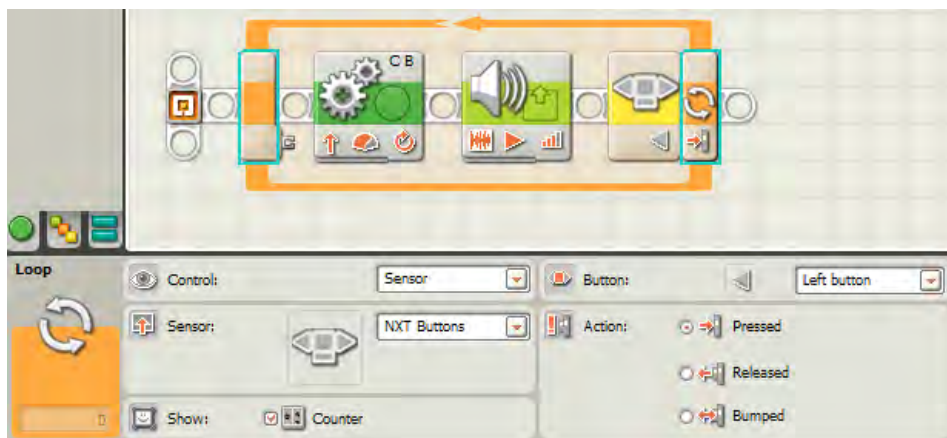

Figure 11-9. A LOOP block configured to break when the Left button is pressed
For example, in Figure 11-9, I have selected the NXT Buttons options from the Sensor section drop-down menu.
■ **Note** In some situations, the break condition must occur at the exact moment that the LOOP block is checking its break condition. For example, in Figure 11-9, if I'm walking with my robot and press the Left button during the MOVE block's execution or the SOUND block's execution, the loop will not break. I must press the Left button after the robot beeps but before it begins moving again. There are ways to fix this and I'll show you how later in this chapter.